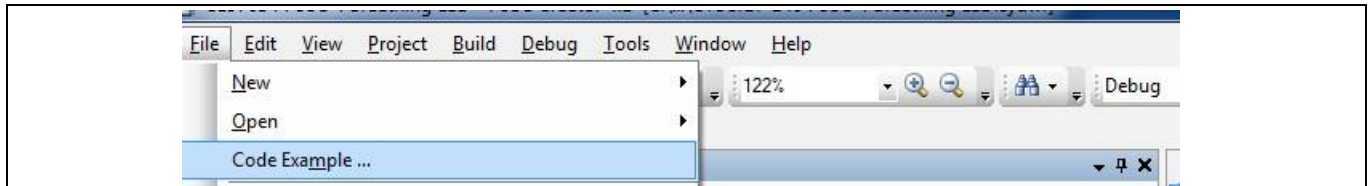

Figure 19 PSoC Creator Find Code Example
2. On the Start Page, click **Find Code Example...** under **Start**, or use the menu item “**File > Code Example...**” as shown in **Figure 19**.